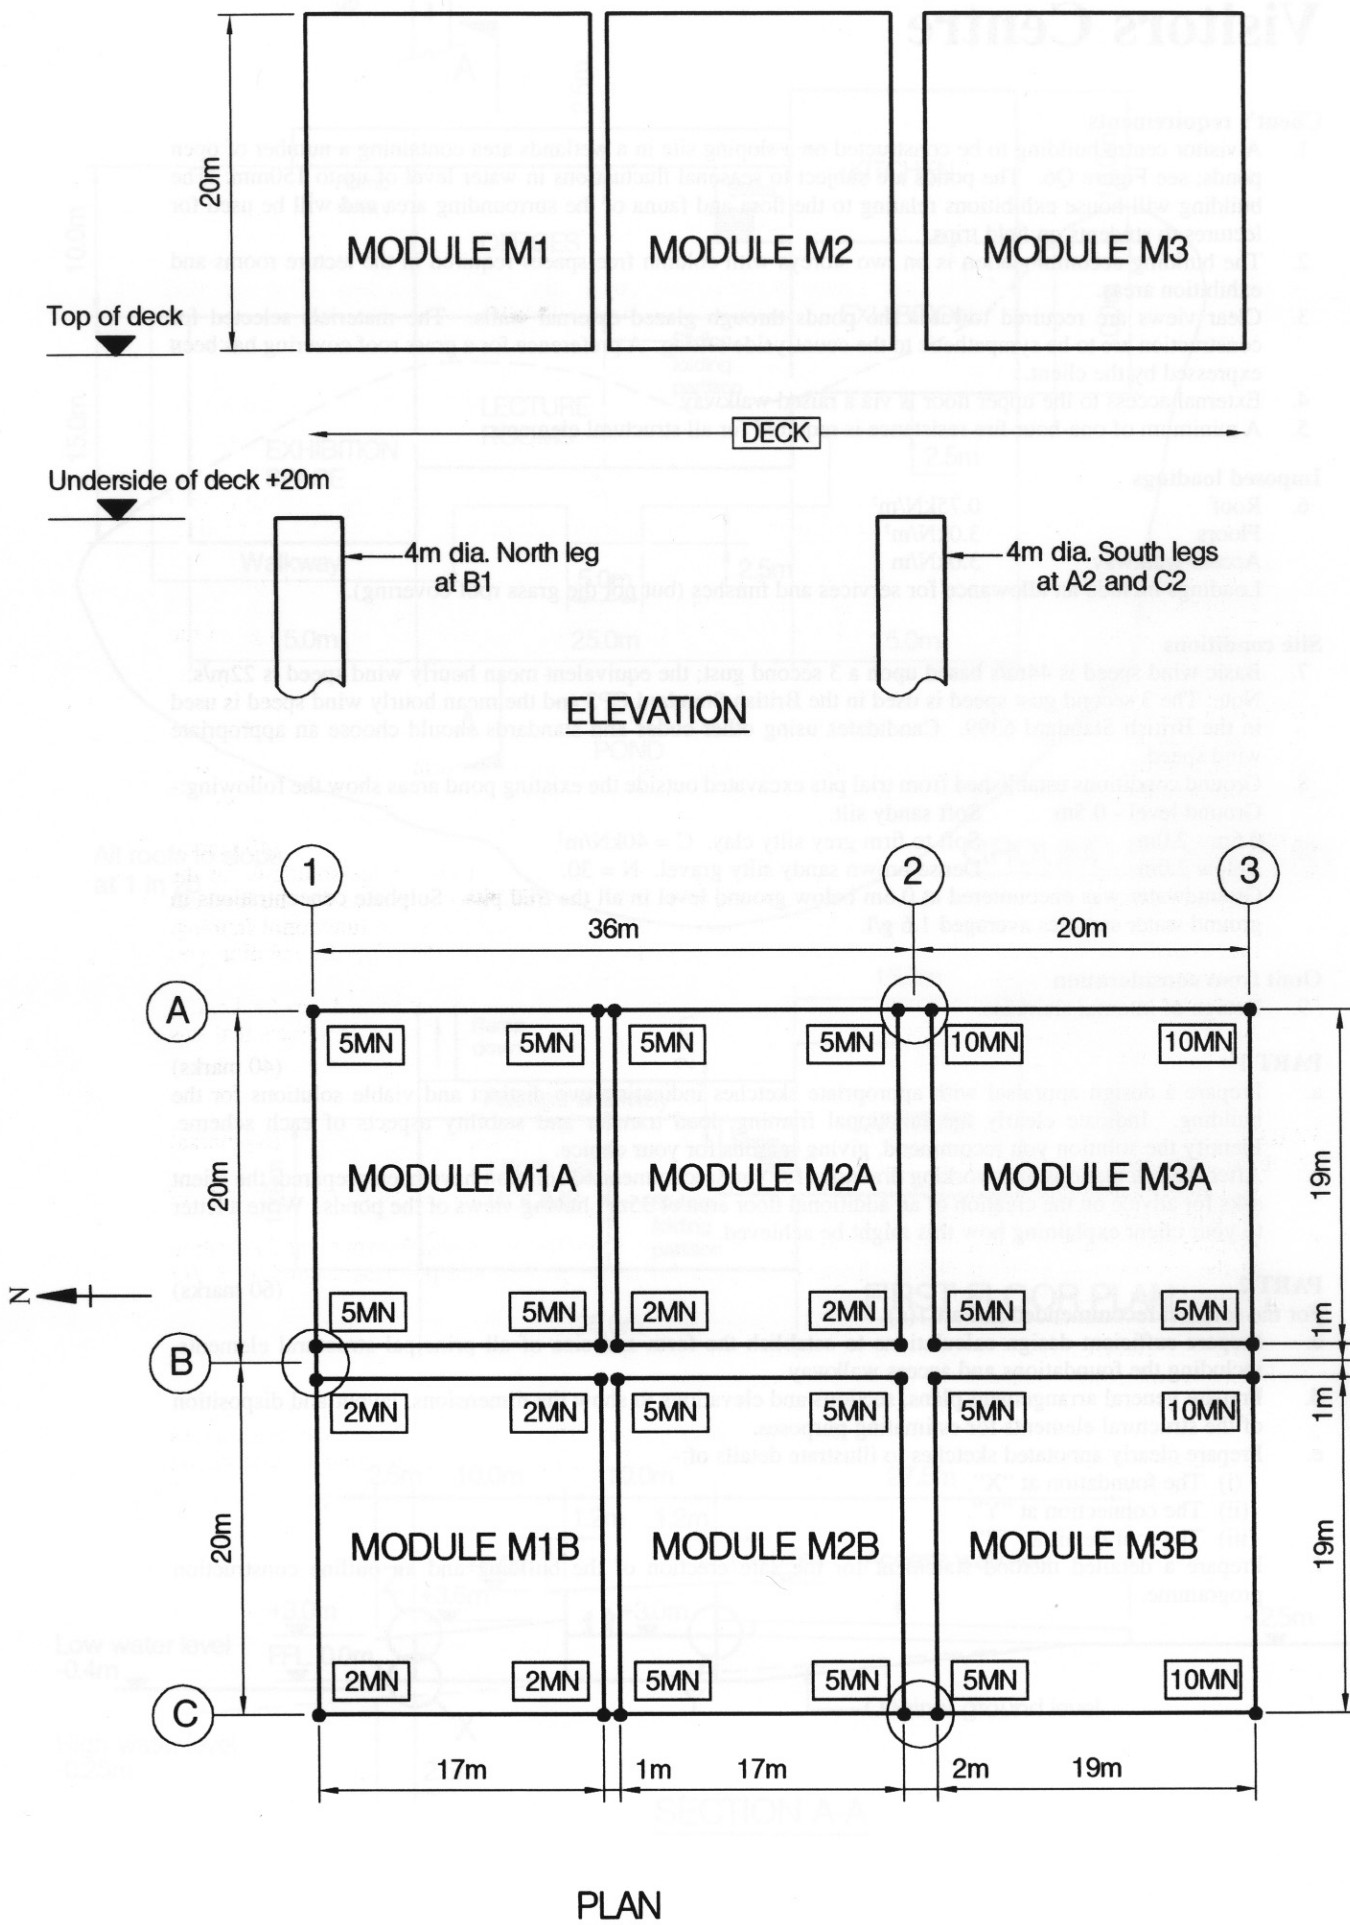

FIGURE Q7
1. A steel deck for an offshore platform to be supported from a 3-leg gravity base substructure; see Figure Q7.
6. The module reactions on the deck due to self-weight and operating loads are shown on Figure Q7.